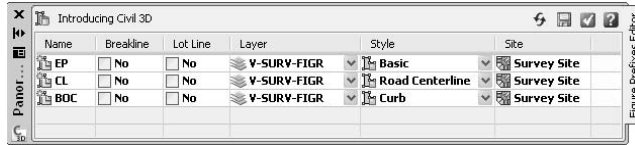

Figure 4.7
8. Repeat step 5 to create an entry for BOC. Use the Layer pull-down list to assign the V-SURV-FIGR layer. Use the Style pull-down list to assign the Curb style to the BOC entry. Your Panorama should now look like Figure 4.7.